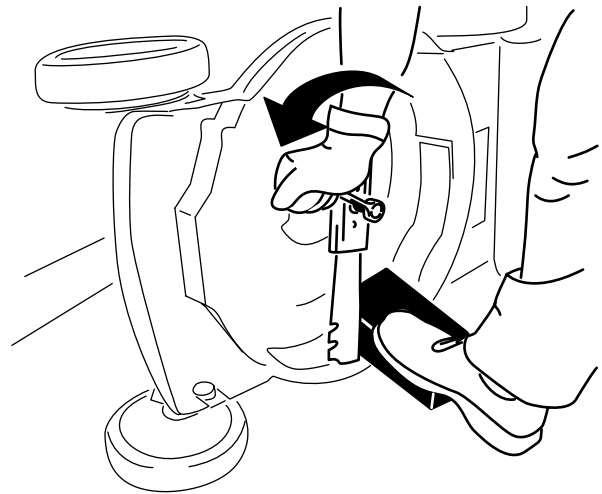

Figure 49
3. Use a block of wood to hold the blade steady (Figure 49).
4. Remove the blade, saving all mounting hardware (Figure 49).